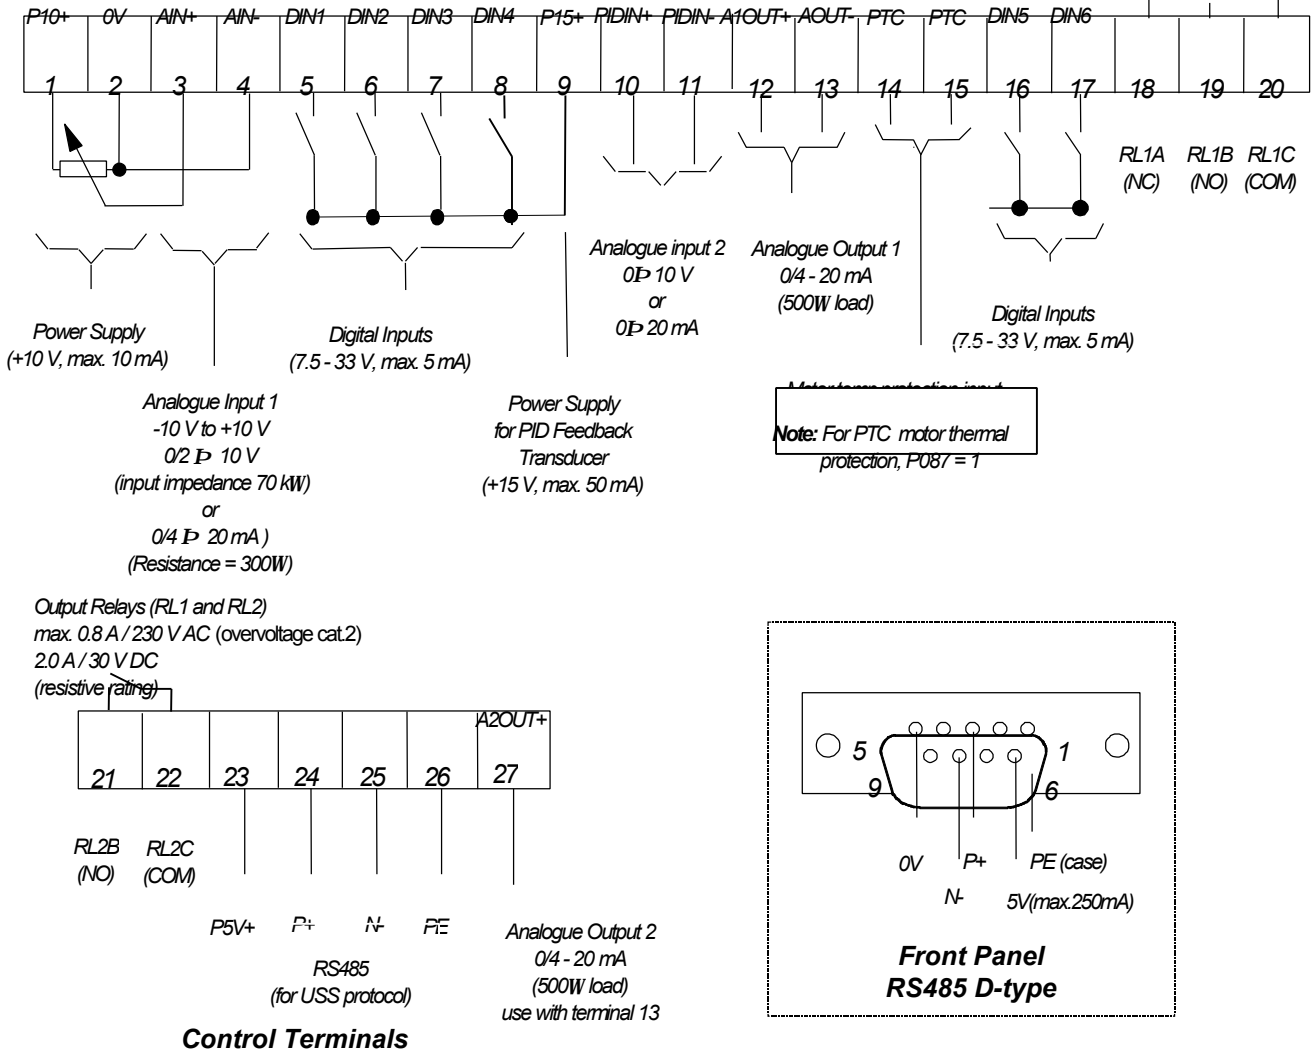
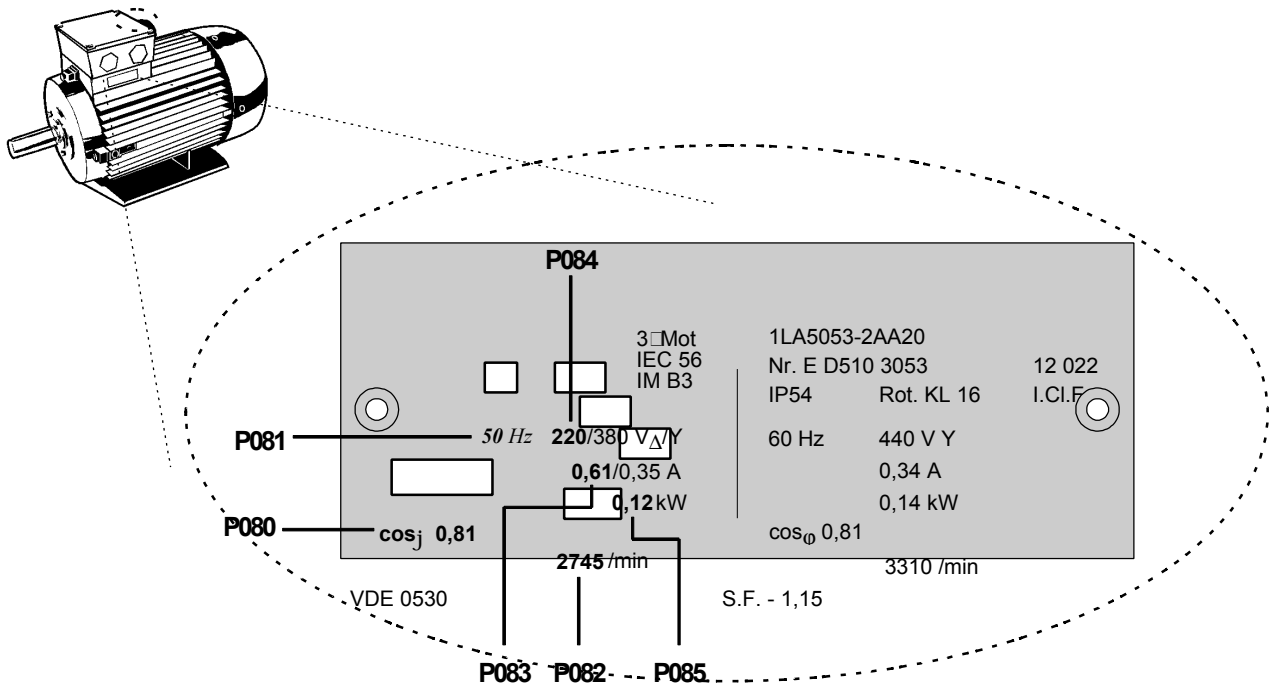

Figure 3.2.2: Control Connections - MIDIMASTER Vector
Figure 4.2.1: Typical Motor Rating Plate Example
- (1) The inverter does not have a main power switch and is therefore live when the mains supply is connected. It waits with the output disabled until the RUN button is pressed or for the presence of a digital ON signal via terminal 5 (rotate right- default) or terminal 6 (rotate left- default) - see *parameters P051 to P055 and P356*.
- (2) If output frequency (P001 = 0) is selected as the display, the corresponding setpoint is flashed on the display approximately every 1.5 seconds while the inverter is stopped.
- (3) The inverter is programmed at the factory for standard applications on Siemens standard motors. When using other motors it is necessary to enter the specifications from the motor's rating plate into parameters P080 to P085 (see *Figure 4.2.1*). **Note: Access to these parameters is not possible unless P009 = 002 or 003.**
- (1) Connect control terminal 9 to terminal 5 via a simple on/off switch. This sets up the inverter for clockwise rotation of the motor shaft (default).
- (2) Secure all covers to the unit and then apply mains power to the inverter. Set parameter P009 to 002 or 003 to enable all parameters to be adjusted.
- (3) Check that parameter P006 is set to 000 to specify digital setpoint.
- (4) Set parameter P007 to 000 to specify digital input (i.e. DIN1, terminal 5 in this case) and disable the front panel controls.
- (5) Set parameter P005 to the desired frequency setpoint.
- (6) Set parameters P080 to P085 in accordance with the rating plate on the motor (see *Figure 4.2.1*).
- (7) Set the external on/off switch to ON. The inverter will now drive the motor at the frequency set by P005.
- (1) Connect control terminal 9 to terminal 5 via a simple on/off switch. This sets up the motor for clockwise rotation (default).
- (2) Connect a 4.7 k $\Omega$  potentiometer to the control terminals as shown in Figures 2.2.4 and 2.2.6 (MMV) (Figures 3.2.2 and 3.2.4 (MDV)) or connect pin 2 (0V) to pin 4 and a 0 - 10 V signal between pin 2 (0V) and pin 3 (AIN+).
- (3) Set the Analogue Input 1 Configuration DIP selector switches 1, 2 and 3 for voltage (V) input. (see *Figure 3.2.2-3.2.4, Section 4.1.2*)
- (4) Secure all covers to the unit and then apply mains power to the inverter. Set parameter P009 to 002 or 003 to enable all parameters to be adjusted.
- (5) Set parameter P006 to 001 to specify analogue setpoint.
- (6) Set parameter P007 to 000 to specify digital input and disable the front panel controls.
- (7) Set parameters P021 and P022 to specify the minimum and maximum output frequency settings.
- (8) Set parameters P080 to P085 in accordance with the rating plate on the motor (see *Figure 4.2.1*).
- (9) Set the external on/off switch to ON. Turn the potentiometer (or adjust the analogue input control voltage) until the desired frequency is displayed on the inverter.